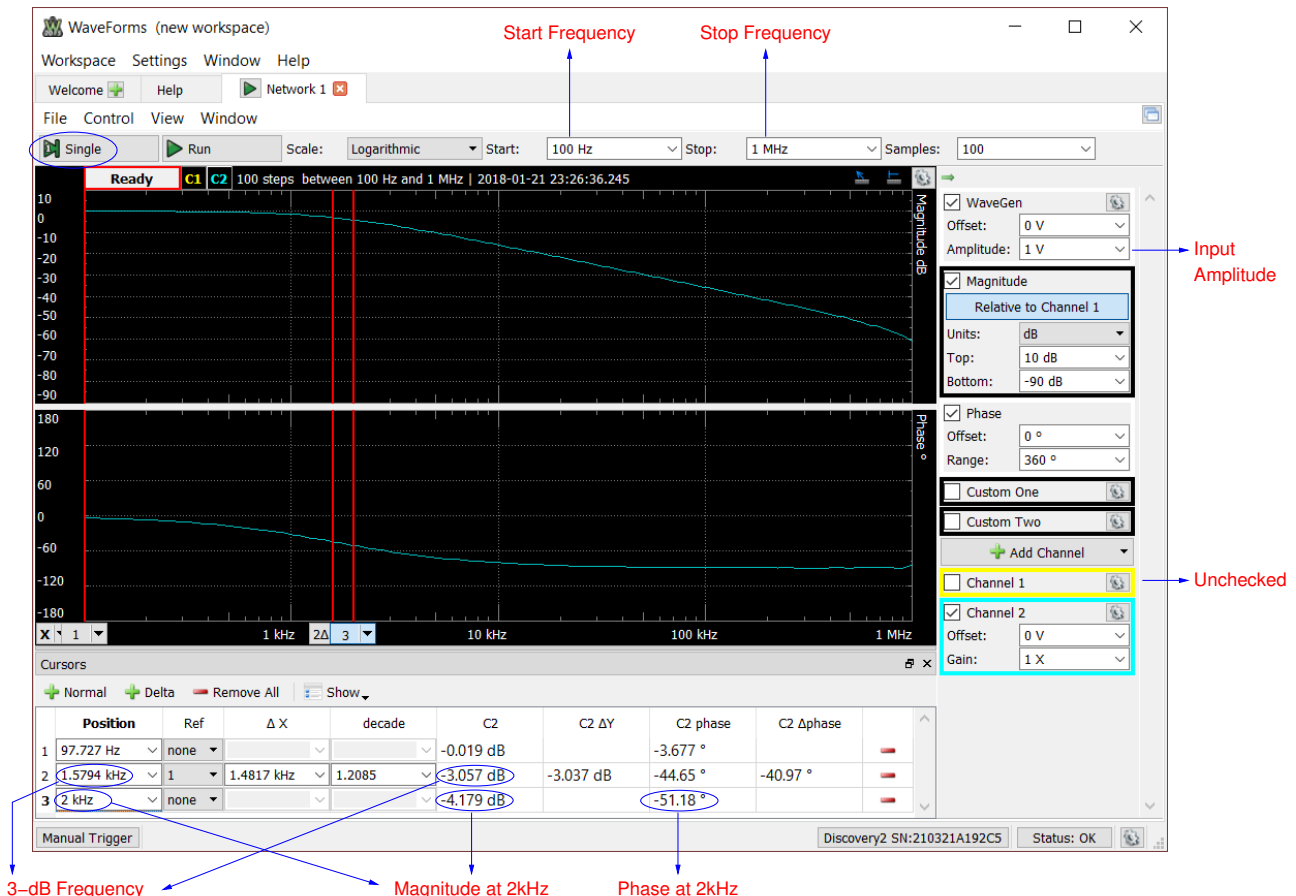

Figure 14: Network Analyzer Window
- Click on "Single", magnitude and phase Bode plots will be drawn as shown in Fig. 14